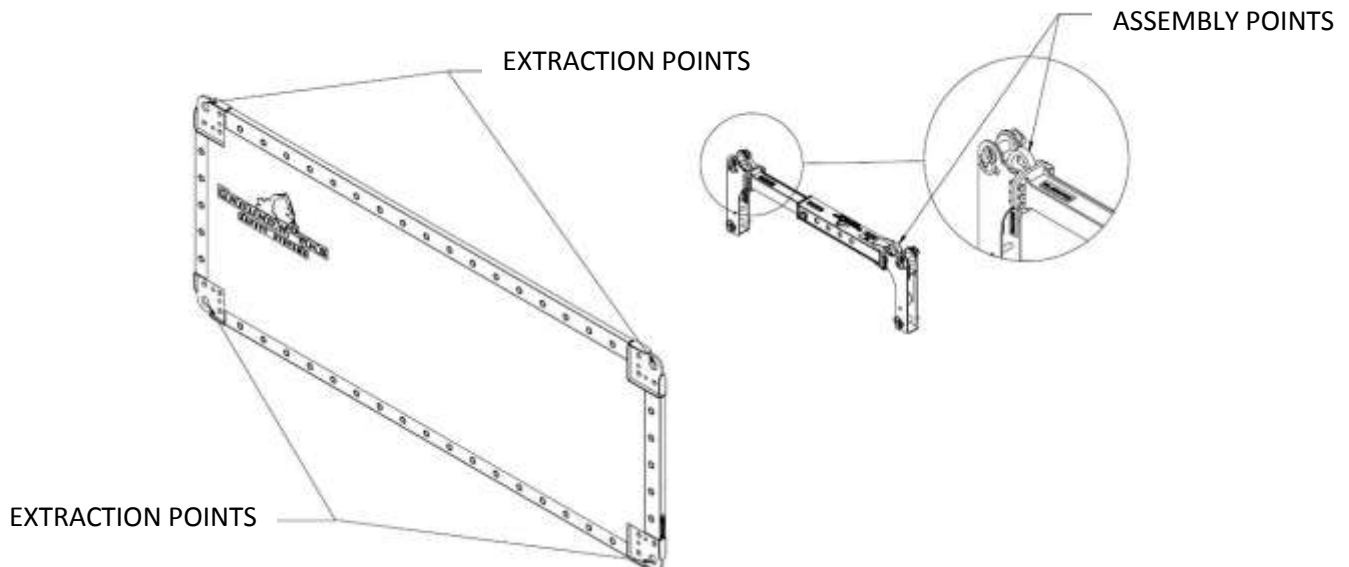

Figure 19: Lift Point Locations
- When removing the Trench Box from excavation site, use the panel extraction points. **DO NOT USE THE STRUT ASSEMBLY POINTS FOR REMOVING THE TRENCH BOX FROM EXCAVATION. SEE FIGURE 19 FOR LIFT POINTS ON PANELS AND STRUTS.**